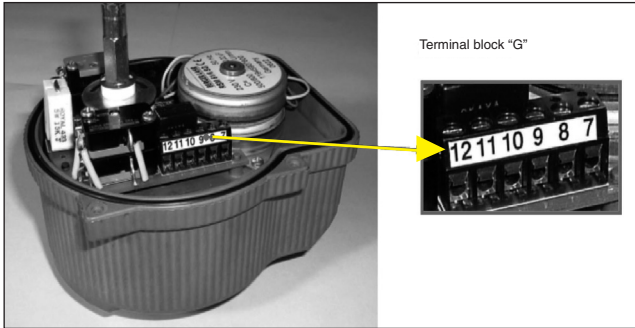

Fig.4 View of terminal block "G" to connect to auxiliary signals
- Screw the fasteners (D) to remove the upper cover (A).
- Raise up the cover (A) carefully to avoid to damage the internal electric parts.
- Turn in the electric supply cable (diam. 6 ÷ 9 mm / 0,24÷0,35 inch) by the properly bolts (E) (PG11).
- Proceed to connect the cable in its proper terminal-block (F) by looking at the wiring diagram (please also review the tag you find inside the cover) according to the different voltage (fig.4).
4.4 Connection of signal auxiliary wires to the limit switches (fig.4)